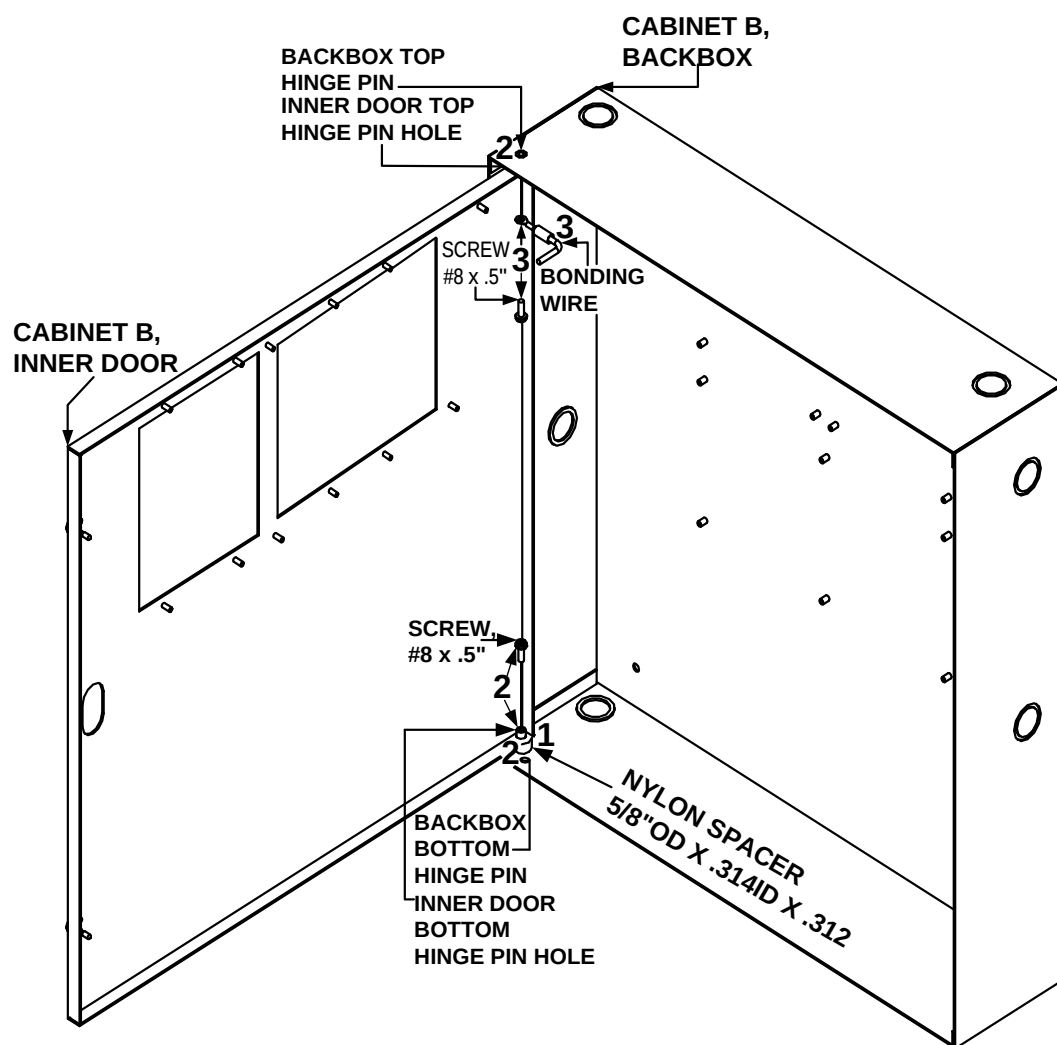

Figure 2.5.6.5.1 Cabinet B, Inner Door to the Backbox Installation
**NOTE:** For information on the installation of the opposite end of the bonding wire, see Section 2.5.6.6, Step 3 and Location 3 of Figure 2.5.6.6.1.